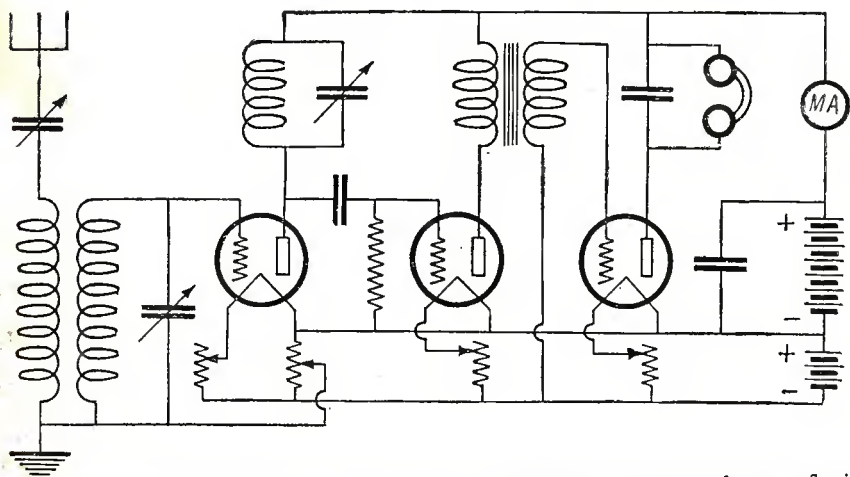

Fig. 1. How a milliammeter is connected in the circuit to register the amount of current flowing in the "B" battery circuit.
By the addition of one coil to the circuit of Fig. 1, as shown above, selectivity can be greatly increased.
The interference caused by other radio services can be combatted in one of two ways. The receiver can be made more selective, or the constants of the antenna system so adjusted as to provide sharper tuning. The first method is, of course, particularly applicable to the single circuit type of receiver. It is an inherent characteristic of this circuit to be broadly tuned. In other words, not only the desired signals are picked up, but those of neighboring frequencies are unpleasantly audible at the same time. Let us consider a remedy. In Fig. 1 we have a typical single circuit receiver, variously called a "Copp" circuit, direct coupled and conductively coupled receiver. It is readily seen that any incoming energy affecting the antenna circuit, A, L, V.C., and G, simultaneously affects the grid circuit, provided its frequency is somewhere near the range of the inductance L. No provision is made for adjusting the frequency of the grid circuit, therefore, it obtains "shock excitation" at any frequency affecting the antenna system. This makes for broad tuning and the consequent lack of selectivity.
kept wired in series with the "B" battery when the set is working, in the way shown in Fig. 1. If this is done, one has one's finger, so to speak, always on the pulse of the set and one's search for faults when they occur is considerably narrowed down. Take for example the case of a set such as that shown in Fig. 1. The milliammeter reading when the set is working perfectly is taken and noted down for future reference. Let us suppose that it is two milliamperes. If at any time signals become weak the first thing to do is to glance at the pointer of the instrument. Should it still register two milliamperes we know: (a) that there is nothing wrong with the plate circuits; (b) that the tubes are above suspicion as regards at any rate three out of their four connections (filament and plate); (c) that we need not look to batteries or battery connections for the source of the trouble; (d) that there is no short circuit or broken circuit on the high tension side of the set. This narrows down the field of the search to quite small dimensions. The fault, if it is not in the phones, must lie either in the grid circuits, which include grid condenser, grid-leak and transformers, or in what we may call the tuning part of the set. So far as transformers are concerned we are limited to the secondaries, for their primaries are in the plate battery circuit. By the tuning part of the set is meant (1) the antenna; (2) the ground; (3) the antenna inductance and antenna condenser; (4) the closed circuit inductance and closed circuit condenser. The grid circuits can be tested out very easily. Begin with the audio frequency tube. Increase the negative potential of the grid biasing battery and watch the milliammeter. If current passed decreases, this grid circuit is as it should be. If not there is a fault. Test the detector in the same way by removing the grid leak and connecting the grid battery in its place. The radio frequency tube may be tried simply by moving the slider of the potentiometer from end to end. If there is no fault the milliammeter will register an increase as it moves towards the positive end. Having thus tested all the rest of the set nothing remains but the antenna and ground and the fault will be found in one or other of these.